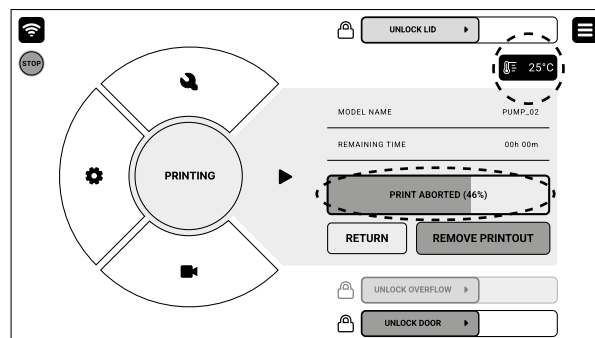

Fig. 7.2 Screen during printing with the E-STOP button pressed.
2. **E-STOP button on + Printer inside is $\geq 50^\circ\text{C}$** (while printing or cooling) – **PRINT ABORTED** message will be displayed on the screen. Unlock the **E-STOP** button. The opening is not possible until the temperature inside drops below 50°C . Wait, and then press the **REMOVE PRINTOUT** or **UNLOCK LID** button (fig. 7.2).